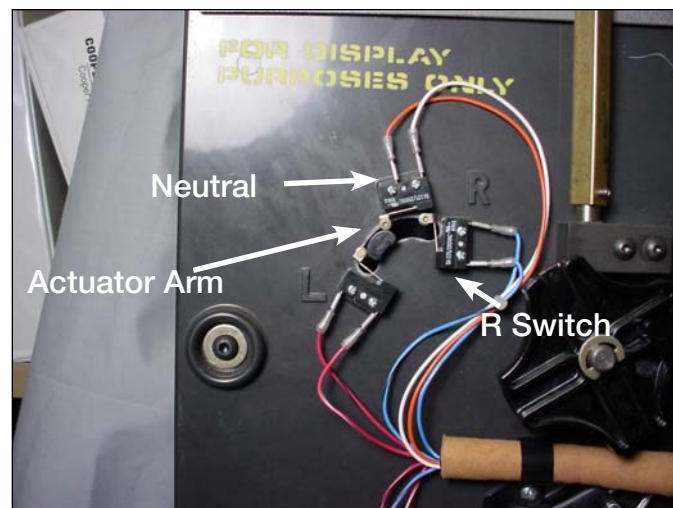

Figure 43.
10. Place and fasten the reversing logic and neutral logic micro switches on the upper left of the drive assembly panel. The micro switch with a blue white striped wire and blue black striped wire is located on the R position. The micro switch with a red white striped wire and red black striped wire is located on the L position. The micro switch with an orange wire and a white wire is located on the center position between the R and L position. See Figure 43.
11. Rotate the pinion back clockwise until the arm in Figure 43 is in the center and the neutral switch is depressed.